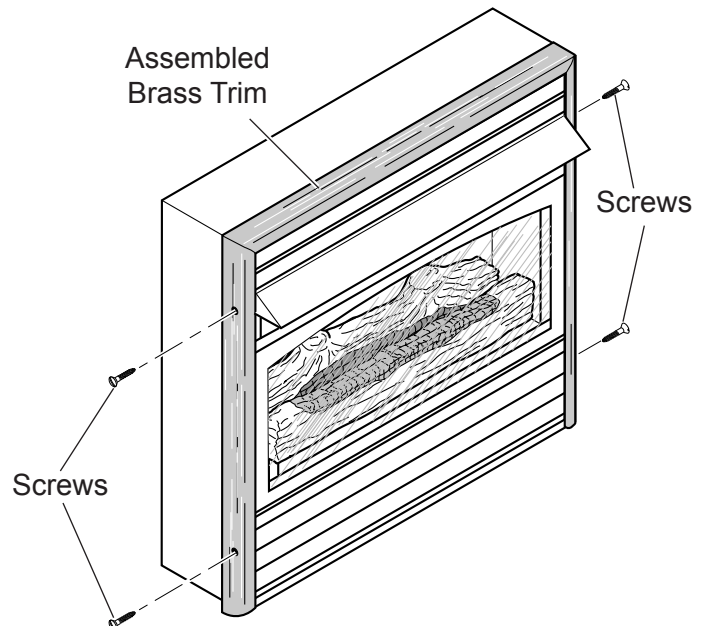

Figure 5 - Attaching Brass Trim to Heater
7. Place the assembled trim on front of heater cabinet. Attach on top and sides with four brass screws included in hardware package. See Figure 5.